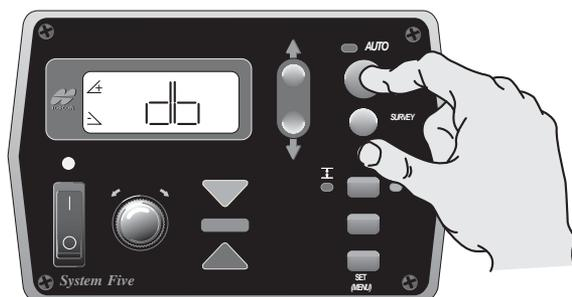

Figure 4-37. Selecting Slope Deadband
1. From the Performance Menu, press the Auto button to select Slope Deadband (Figure 4-37).